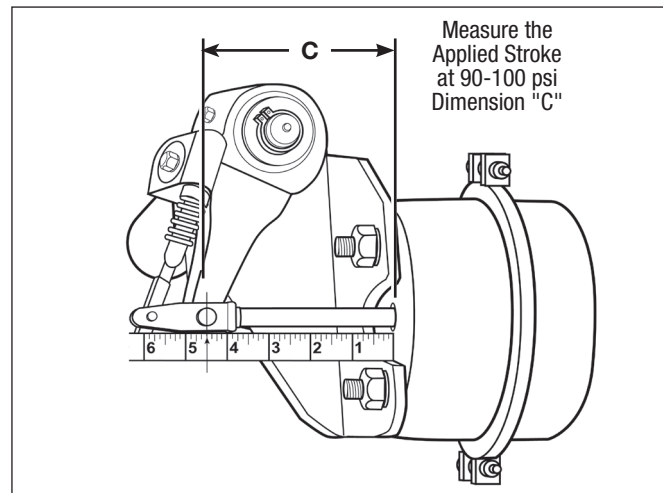

Figure 10 – Measure Applied Stroke at 90-100 PSI
5. Apply 90-100 psi pressure and measure from the face of the chamber to the center of the large clevis pin. See Figure 10. Subtract dimension "C" from "A" for the applied stroke at 90-100 psi. Refer to Table 2 for the maximum legal stroke for the chamber you have.